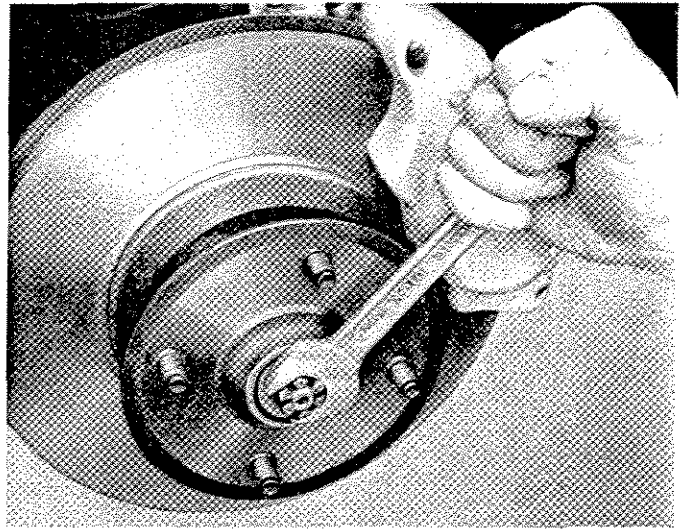

Fig. 20. Adjusting the front hubs
**Front Hub Bearings (Fig. 20)**